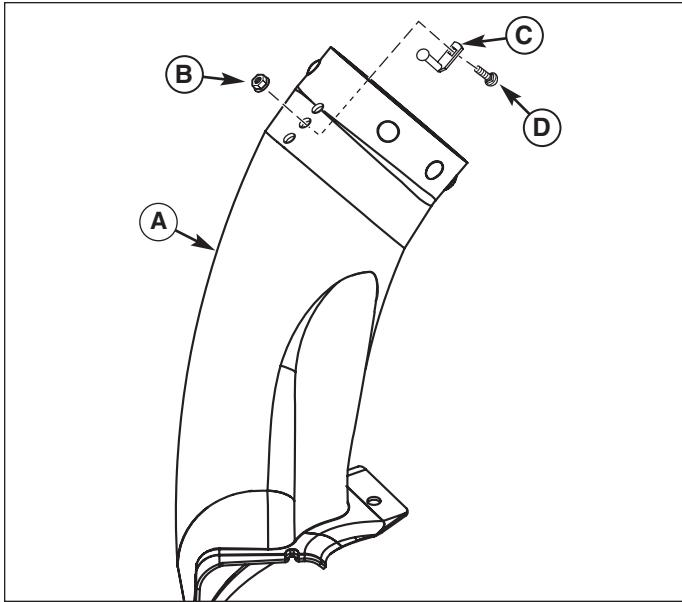

Figure 3. Install Pin
1. Insert the head of pin (C, Figure 3) through front hole of lower chute (A). Secure with 1/4-20 x 5/8 carriage bolt (D) and 1/4-20 lock nut (B) as shown.